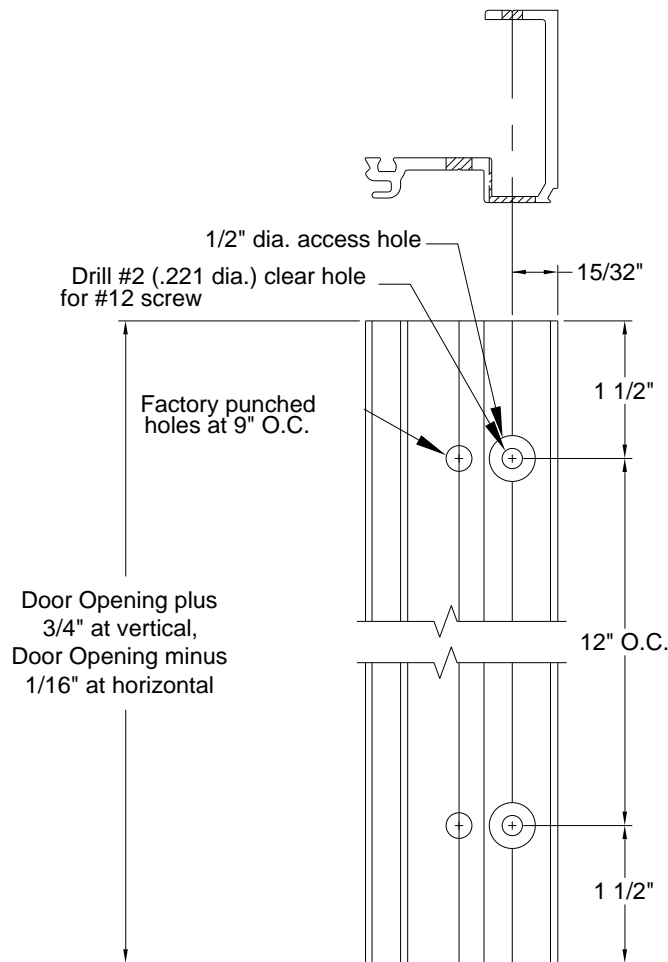
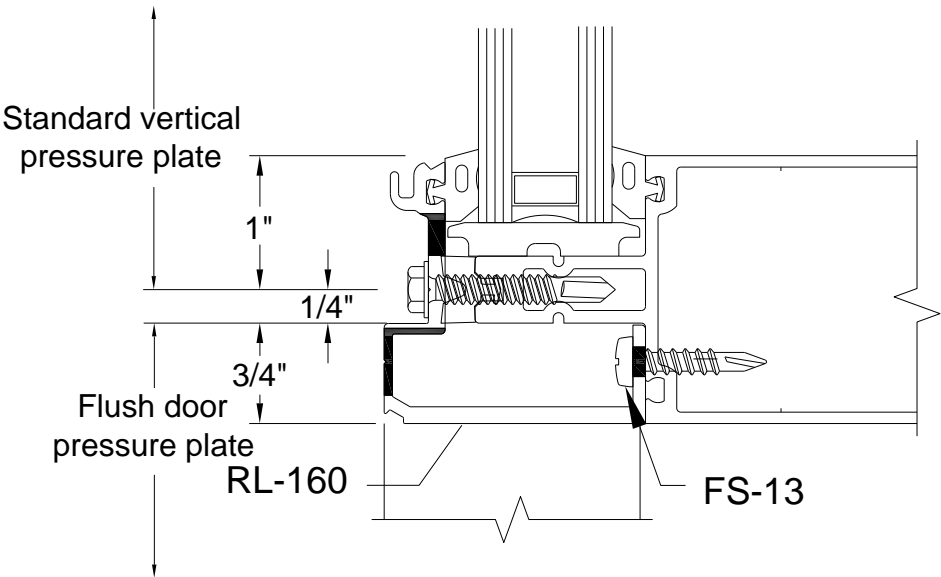
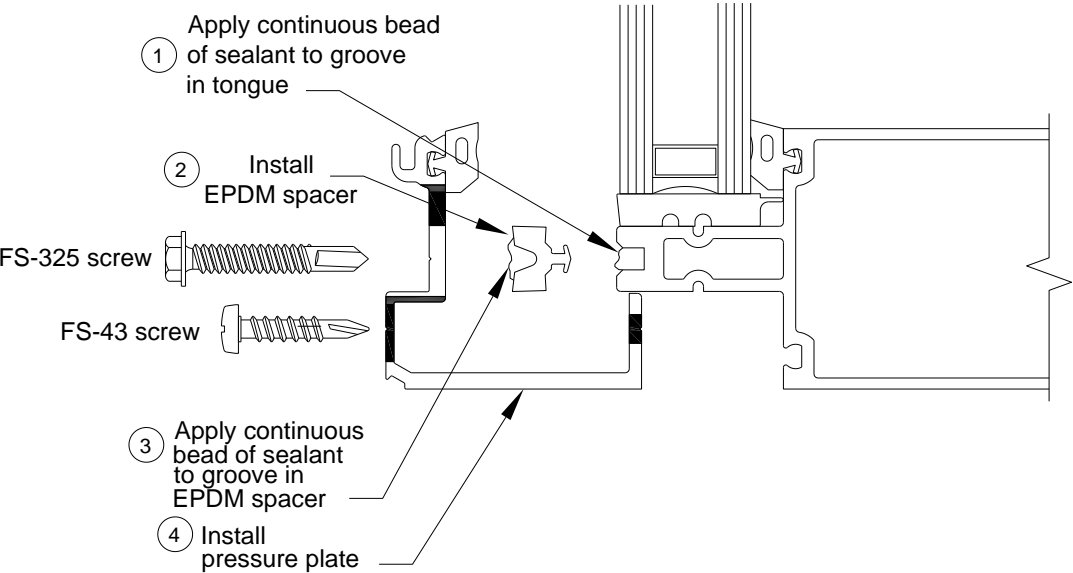

Figure 56: Flush Door Pressure Plate Fab
Figure 57: Flush Door Pressure Plate Layout
Figure 58: Flush Door Pressure Plate Installation
- B2.1 Drill 1/2" diameter access holes in flush door pressure plates 1-1/2" from ends and 12" O.C. See *Figure 56*.
- B2.2 Attach TH-44 threshold clip to bottom of each vertical pressure plate with two (2) fasteners.
- B2.3 Complete the glazing adjacent to the door frame, installing the flush door pressure plates per standard procedures previously outlined. Bed vertical pressure plates in sealant at sill and attach through access holes to mullion with FS-43 fastener 1-1/2" from each end and 12" O.C. See *Figure 57* and *Figure 58*.